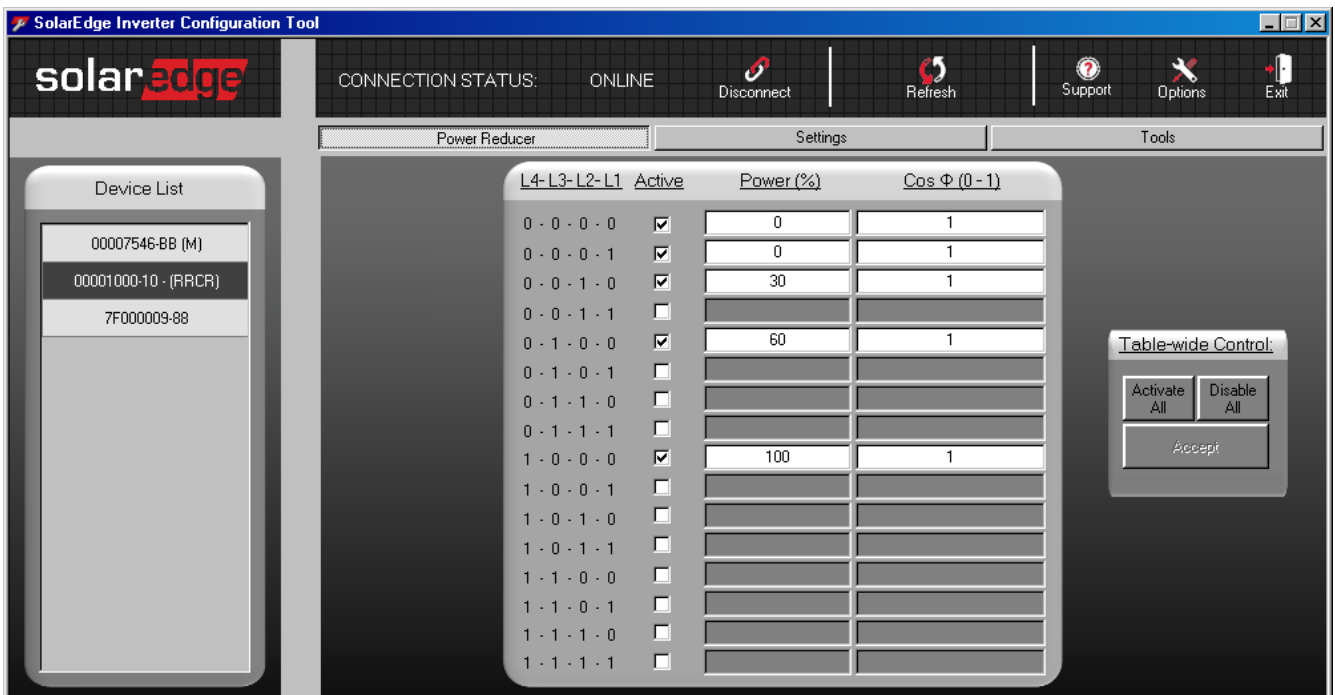

Figure 6: PRI screen in the Inverter Configuration Tool
- 3 The PRI will appear on the device list with its serial number followed by (RRCR) (See Figure 6). Select it to open its control table: